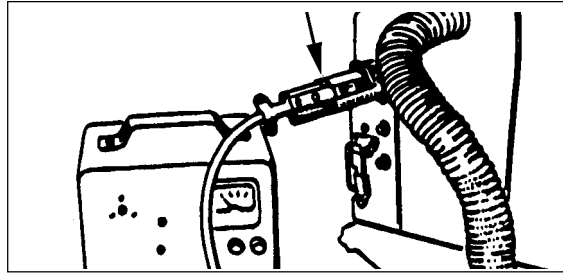

Figure 23
2. Disconnect the connector on the battery charger from the connector on the batteries. See figure 23.